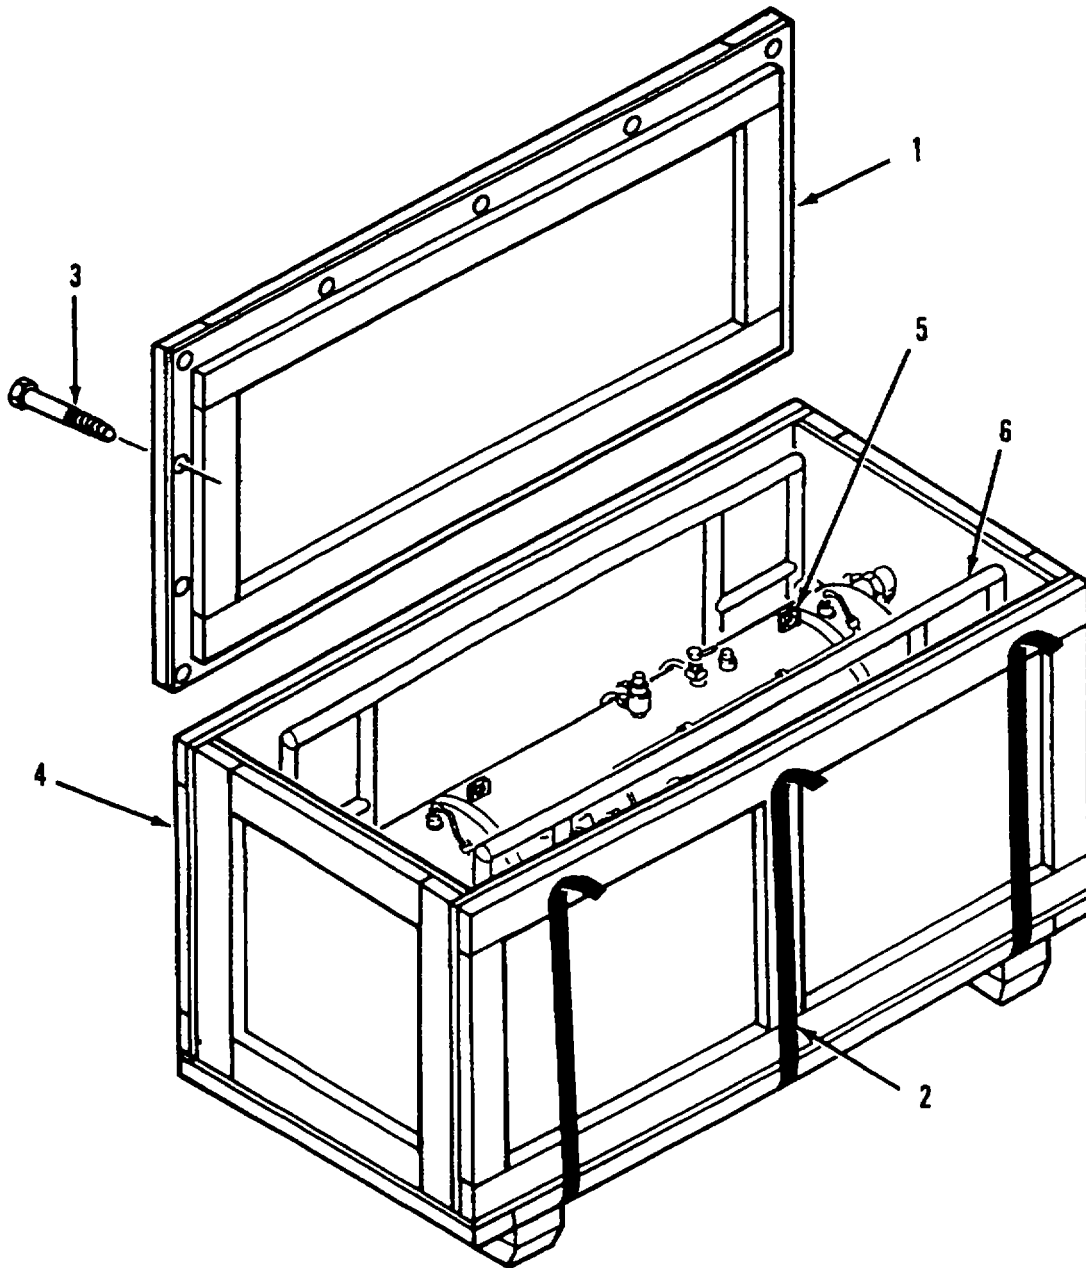

Figure 4-1. Unpacking Filter-Separator.
b. Unpacking Filter-Separator. Refer to figure 4-1.